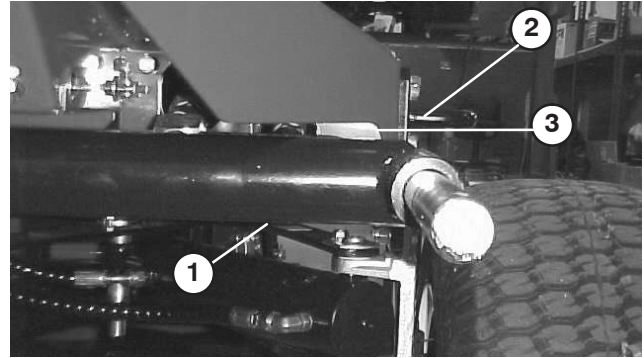
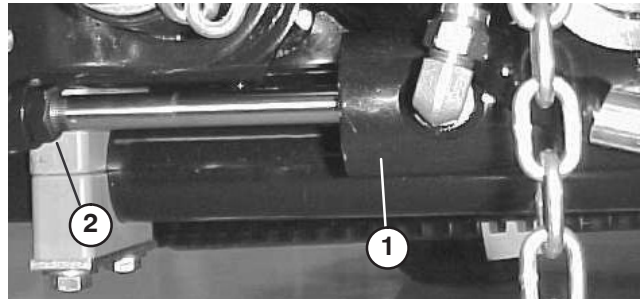
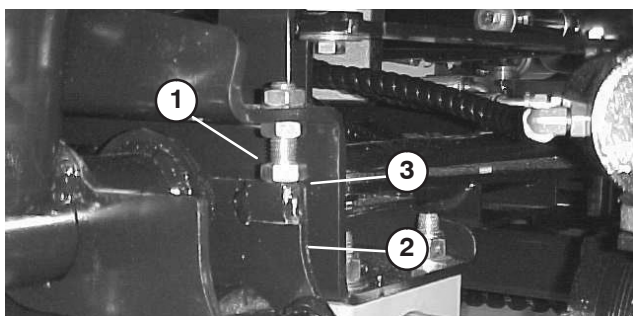

Figure 20
Figure 21
Figure 22
1. Start engine, raise lift arms and check to make sure clearance between each lift arm and floor plate bracket is .18" – .32" (Fig. 20). If clearance is not in this range, back off stop bolts (Fig. 22) and adjust cylinder to attain clearance. To adjust cylinder, back off the jam nut on the cylinder (Fig. 21), remove pin from rod end and rotate clevis. Install pin and check clearance. Repeat procedure if required. Tighten clevis jam nut.
2. Check to make sure clearance between each lift arm and stop bolt is .005” – .040” (Fig. 22). If clearance is not in this range, adjust stop bolts to attain clearance.